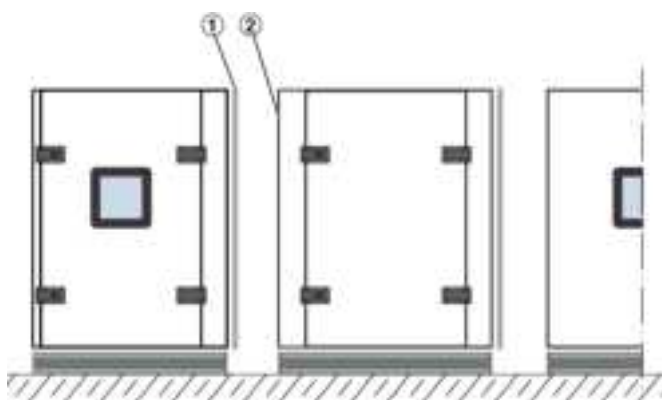

Fig. 11: Seals on AHU casing units
1. ▶ Assemble the AHU casing units as closely as possible to the installation site in accordance with the installation sequence, Fig. 11. Also pay attention to the local interfaces, e.g. to drainage and water connections.
3. ▶ Perimeter seals (Fig. 11 /1) are fitted at the connection points of the AHU casing units. The seal is only located on one AHU casing unit in each case, the casing unit to be connected to it has no seal (Fig. 11 /2).